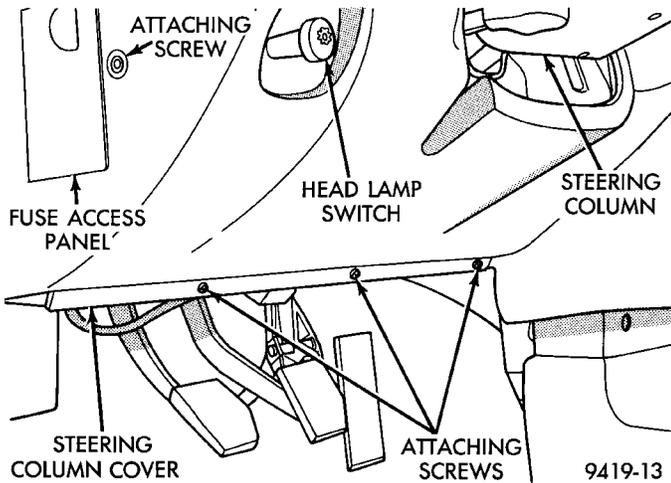

Fig. 6 Steering Column Cover
- (1) Disconnect the negative (ground) cable from the battery and isolate cable.
- (2) Before beginning removal of steering column assembly from vehicle, be sure front wheels of vehicle are in the **straight ahead** position.
- (3) Remove the 4 screws attaching steering column cover, to lower instrument panel. Then remove the trim panel from the instrument panel (Fig. 6).
(11) Install lower instrument panel steering column cover (Fig. 6) on lower instrument panel. Install and securely tighten the 4 screws (Fig. 6) attaching steering column cover, to lower instrument panel.